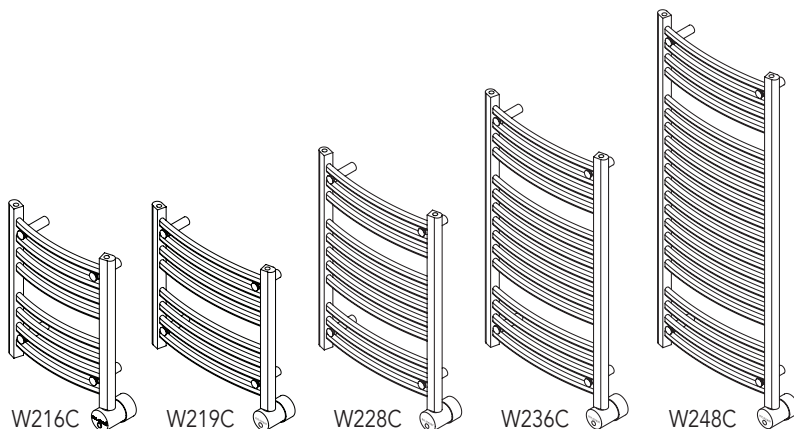

Fig. 1: Wiring Box Assembly
2. Disconnect the wiring box from the escutcheon by loosening the wiring box set screw. (see Fig. 1)
- Disconnect the wiring box from the escutcheon by loosening the wiring box set screws. (see Fig. 1)
- Disconnect the wiring box from the lower threaded flange by loosening the wiring box set screw. (see Fig. 1)